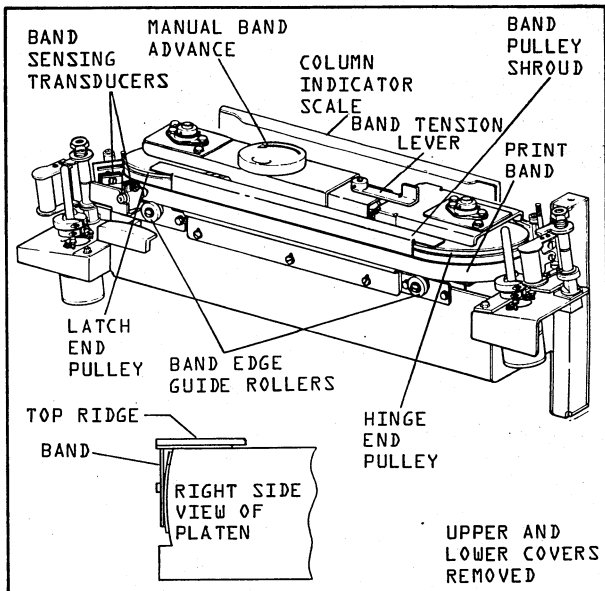

FIGURE 3-6. BAND INSTALLATION
3. Rotate the band tension lever clockwise until it contacts the stop. Remove the old band if one is already installed. Refer to Figures 3-6, and 3-7. Lift the band up off both pulleys.
10. Hold the FORMS RELEASE switch on and use the Coarse Positioning Control to set the top of forms position. Line Finder marks, corresponding to the hammer faces, are provided on the shroud to aid in alignment (see Figure 3-6).